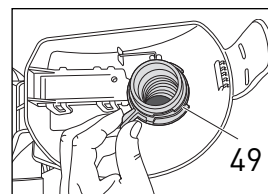
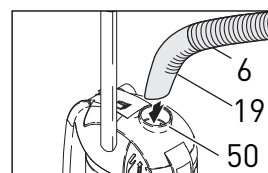

Figure 23
Figure 24
Check for suction at the end of the hose (6) by pulling the hose handle (19) out of the suction opening (18). If you can only feel a small amount of suction, the clog is in the hose. To clear a blockage in the hose, hold the hose handle upright with one hand blocking the top and switch on the machine. Quickly lift your hand on and off the end of the hose. If that does not clear the clog, you may also clear clogs by reversing the hose. To remove the hose from the machine, lift the filter bag cover. Loosen the safety ring (#49, figure 23) located inside the cover by pushing the lever clockwise as shown in figure 23. Remove the hose. Close the filter bag cover and insert the hose handle into the connecting tube (#50, figure 24) of the filter cover. Hold the hose upright with one hand blocking the top and switch on the machine. If necessary, quickly lift your hand on and off the end of the hose. When the clog is cleared, remove the hose handle from the connecting tube. Loosen the safety ring (49) and insert the other end of the hose back into the connecting tube. Release the safety ring so that it secures the hose. Make sure the hose is connected, then close the filter bag cover.